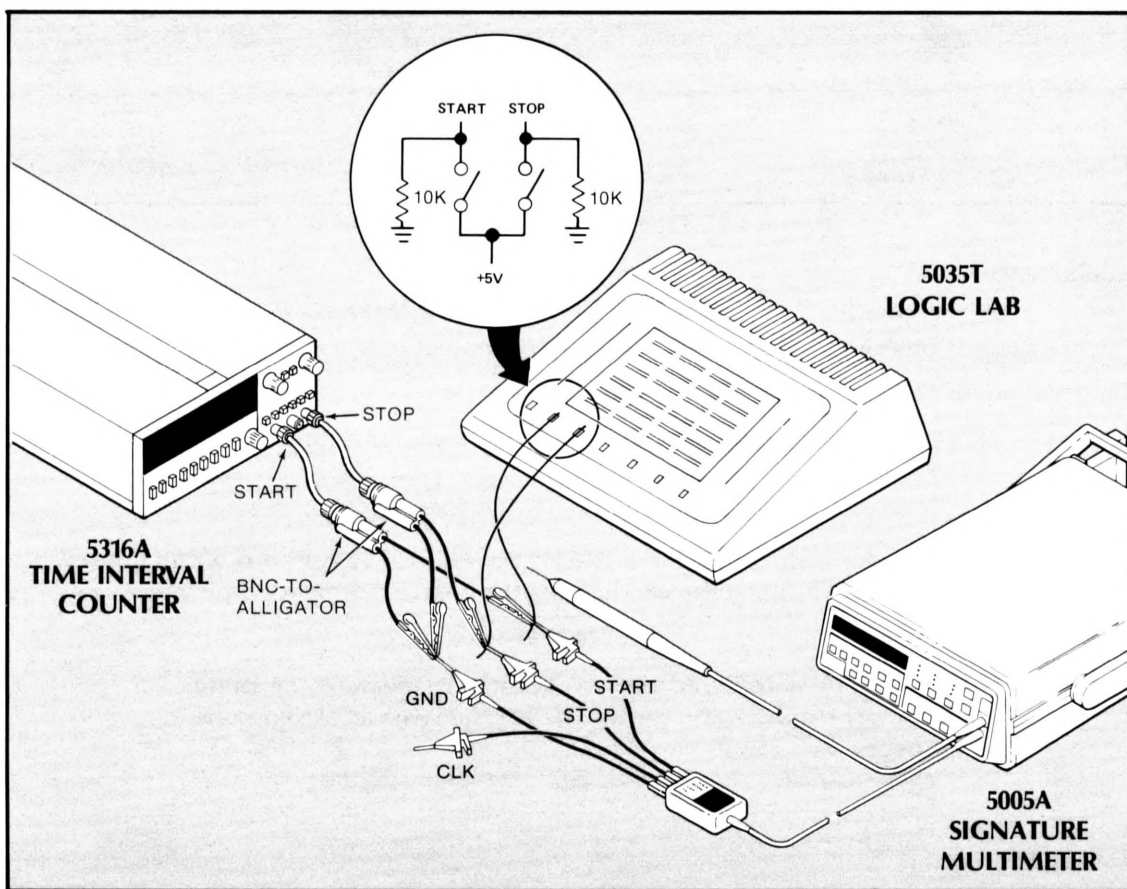

Figure 4-18. Time Interval Test Setup II
4. Reconfigure the setup as shown in *Figure 4-18*. The remaining tests manually gate the time interval measurement, through simple switches on the Start and Stop inputs to logic low and high TTL Levels. If a 5316A is used, set controls as follows: